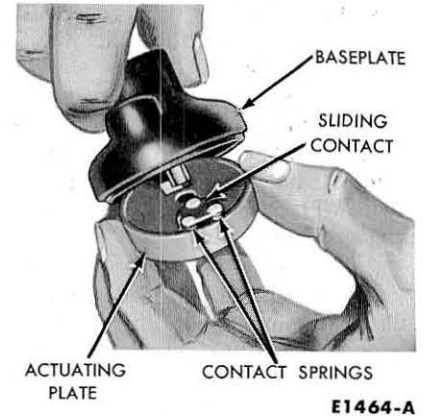

FIG. 17—Installing Actuating Plate on Base Plate
3. Hold the actuating plate (top side down) in one hand and install three springs and the sliding contact in the correct mounting position (Fig. 17). Place the base plate over the actuating plate with the other hand.